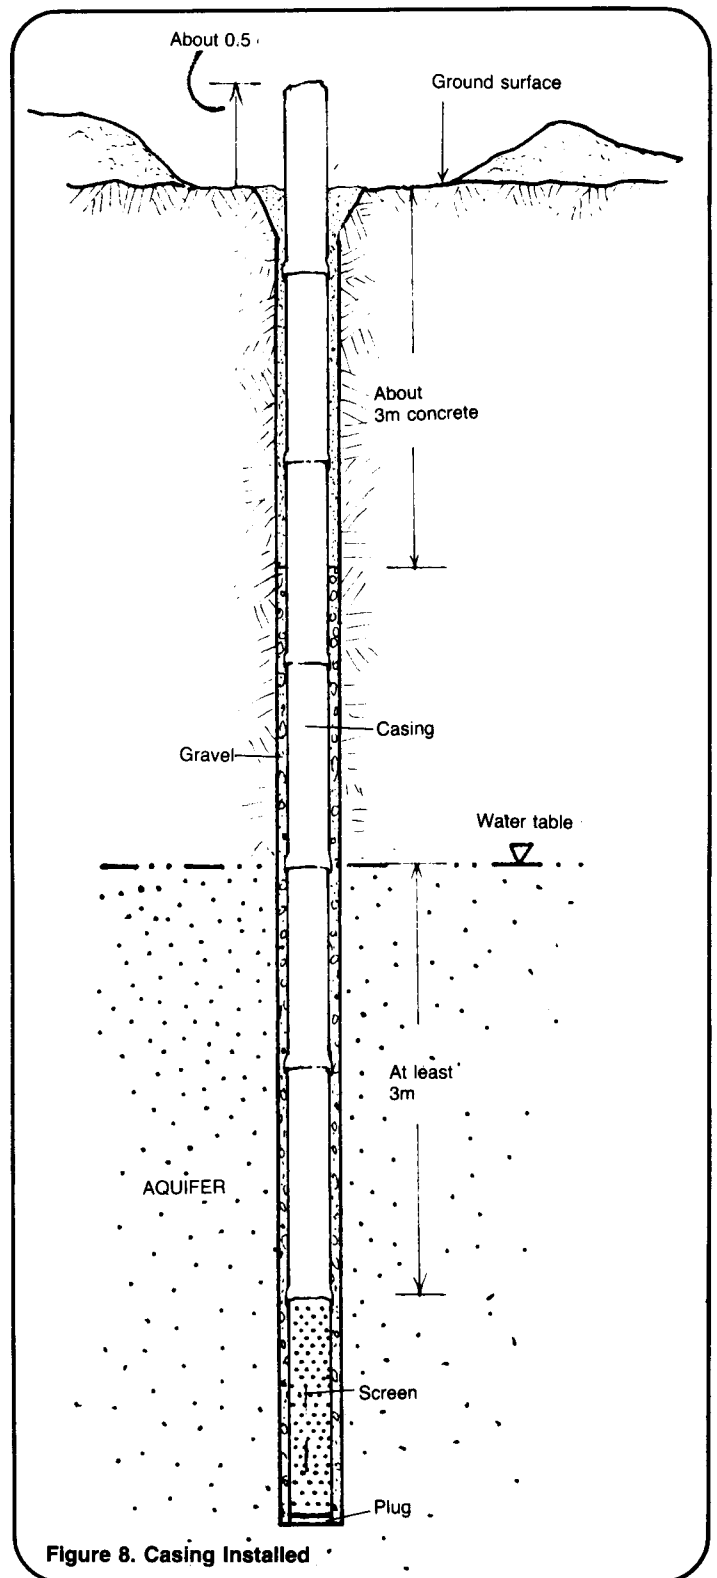

Figure 8. Casing Installed
12. When the well screen and casing have been sunk into the aquifer to the desired depth, remove the bailer from the casing. The casing should protrude about 0.5m above ground level, so part of it may now have to be cut off with a pipe cutter. Drop a pre-seated plug into the casing to seal the bottom of the screen. The plug will prevent aquifer material from entering the screen. The plug should be made from concrete or other non-corrosive material. See Figure 8.